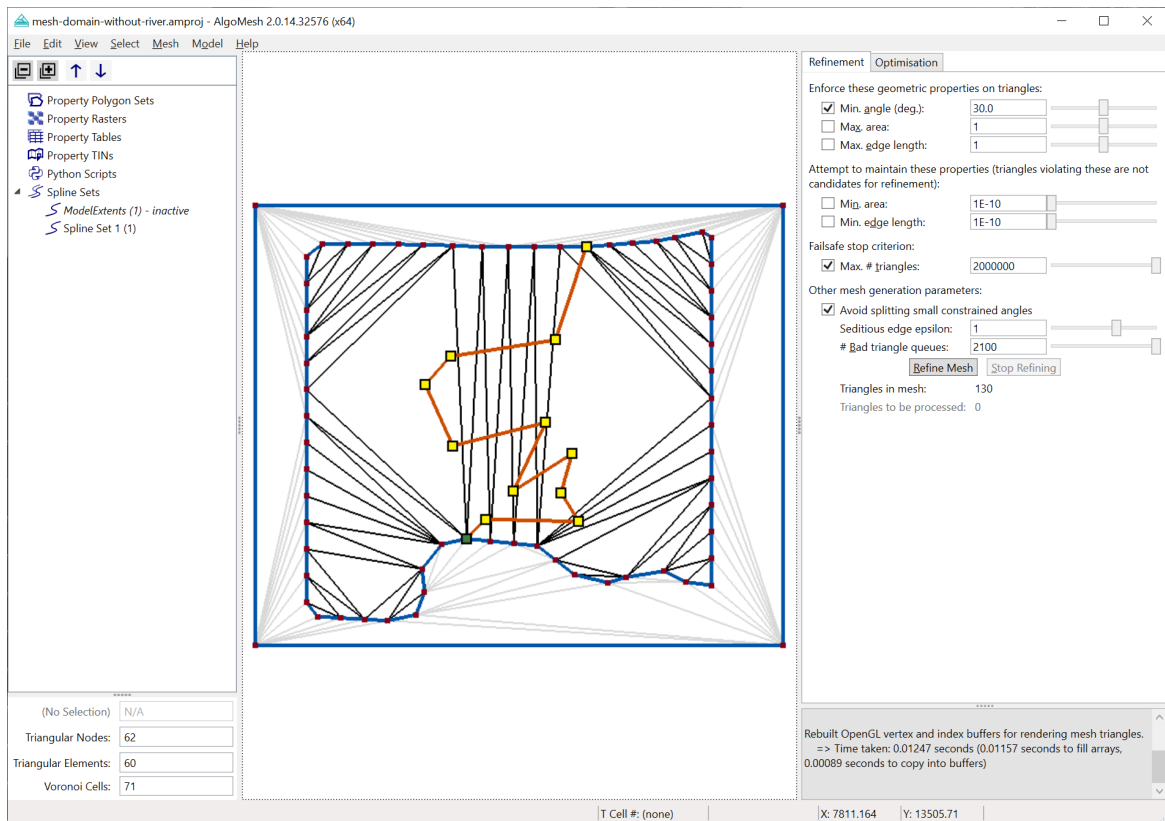

Figure 60: The manually-digitised river polyline.
- Holding down **Alt** on the keyboard, click with the **left mouse button** on one of the vertices along the top of the mesh extents polygon to start a new spline snapped to this point. See Figure 60 for reference.